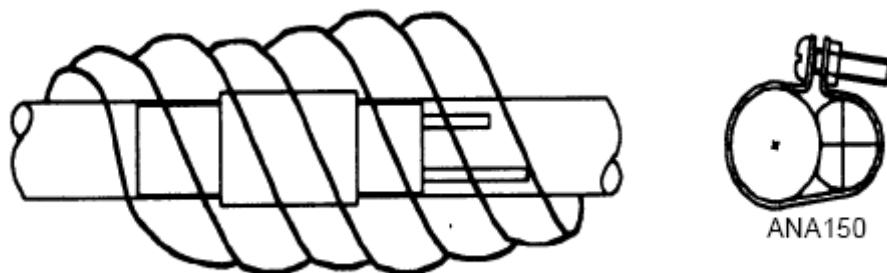

Figure 3-1. Bulb Location.
- (1) Install the evaporator fan motor assembly.
- (2) Install the expansion valve (Figure 3-1).
- (3) Install the Low Pressure Cutout.
- (4) Install the defrost termination switch.
- (5) Connect refrigeration lines.
- (6) Pressurize the system and test for leaks. If no leaks are found, evacuate the system.
- (7) Connect the evaporator fan motor lead(s). Install the evaporator panel(s).
- (8) Open the refrigeration valves and place the unit in operation. Check the refrigeration charge and compressor oil and add as required.